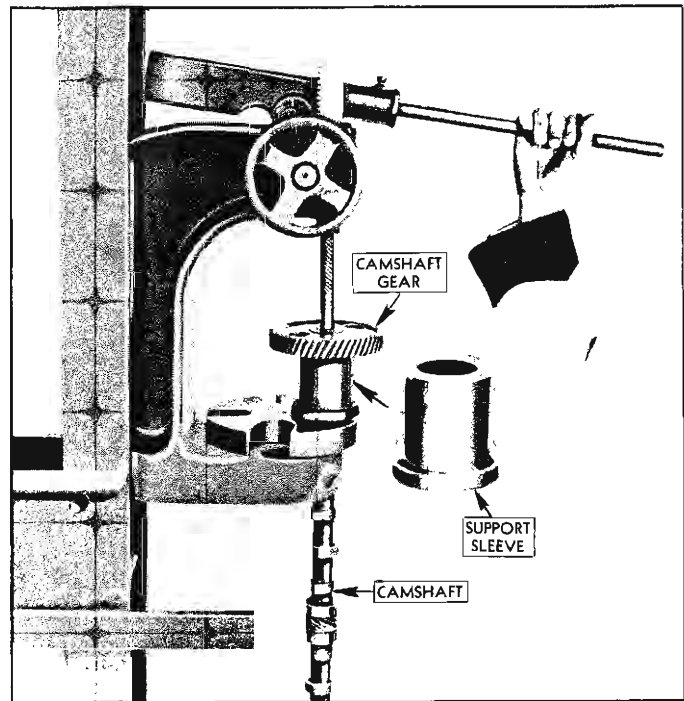

Fig. 25—Removing Camshaft Gear
3. Place the camshaft through the gear remover, place end of remover on table of a press and press shaft out of gear (fig. 25).